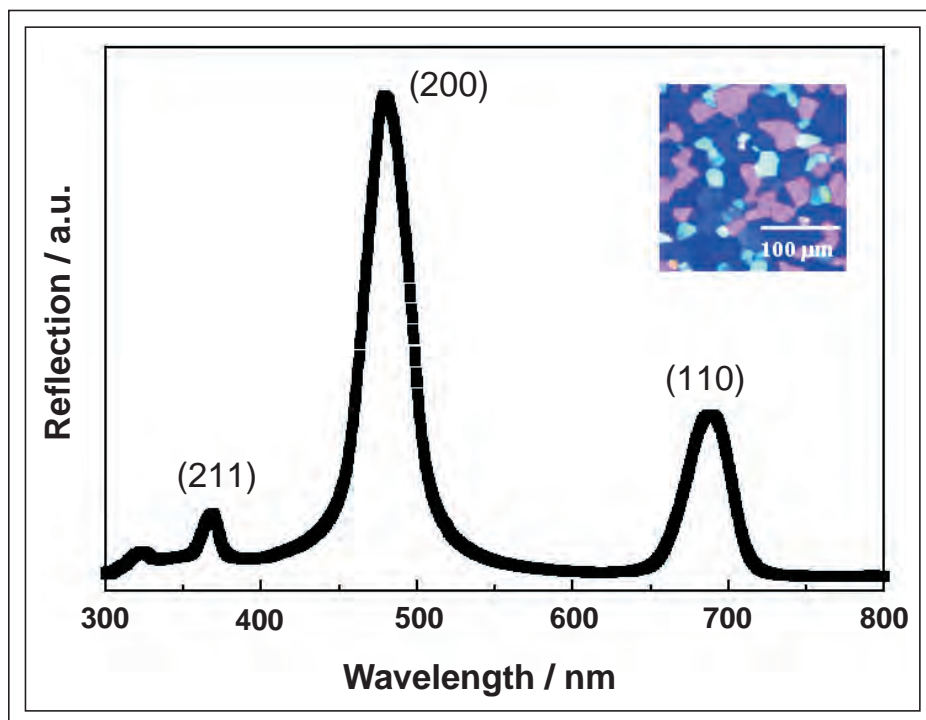

Fig. 2: The reflection spectra of blue-phase 1.
Here, λ , n , and a are the incident wavelength, refractive index, and lattice constant, respectively, and h , k , and l are Miller's indices. For blue-phase 1, h , k , and l are even numbers. Figure 2 shows an example of the reflection spectrum of blue-phase 1; there are several reflection peaks, which is not the case for the chiral-nematic phase. Typically, the diffraction from the (110) and (200) planes in blue-phase 1 and from the (100) plane of blue-phase 2 are in the blue region, which is the origin of the term "blue phase."